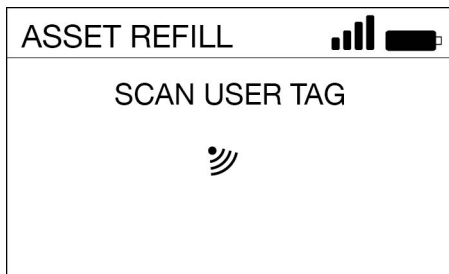

FIG. 37
3. Scan the user identification tag (NFC fob) (FIG. 37).